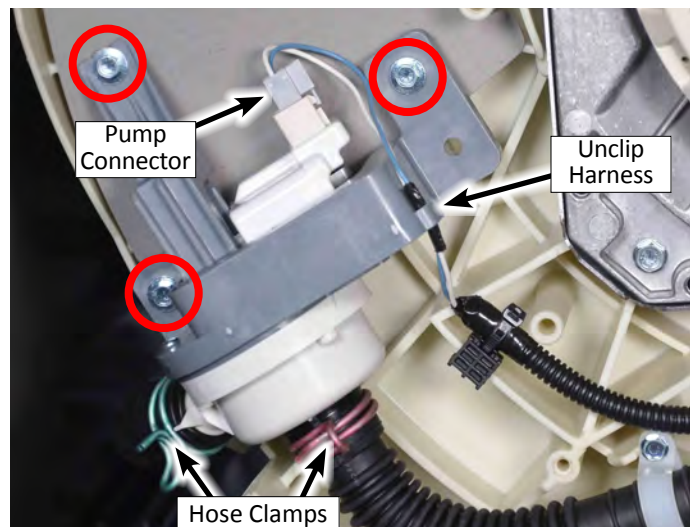

Figure 3 - Recirculation Pump
Removing the Recirculation Pump (Figure 3)
1. Disconnect pump connector from recirculation pump. Unclip harness as shown in Figure 3.
2. Loosen the two (2) hose clamps and pull the inlet and outlet drain hoses off the pump. Note that there is a tab on the outlet that fits into a slot in the hose.
3. Remove the three (3) 8mm hex-head screws (circled) and remove recirculation pump from tub.